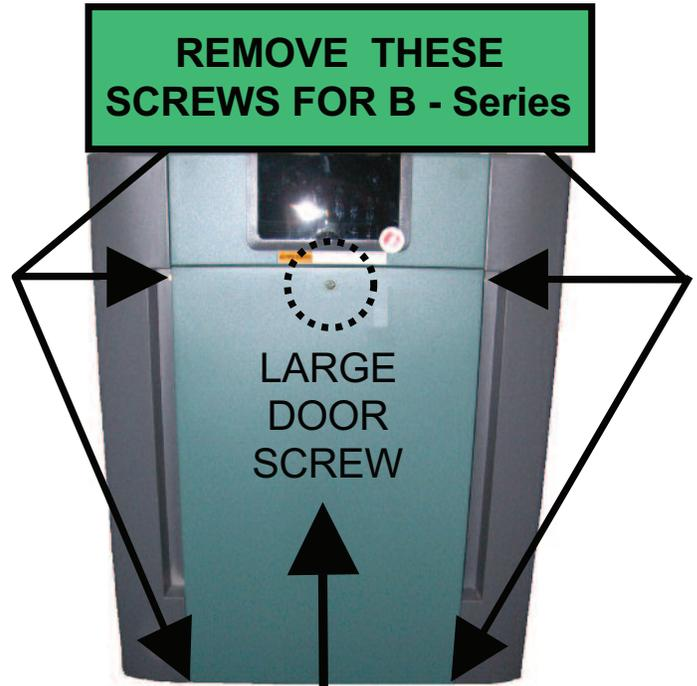
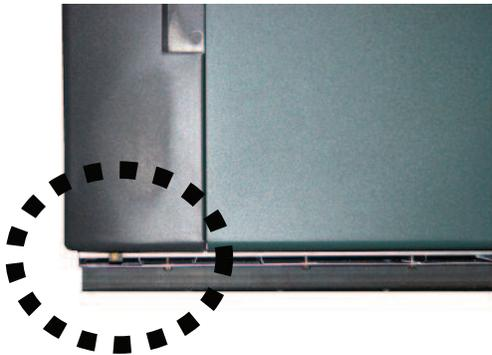

Fig. 2
Fig. 1
3. B-Series: Remove front door by removing the 4 door panel screws shown in **Fig. 1** and **Fig. 2**.
4. A-Series: Remove front door by removing the large door screw in front of unit as shown in **Fig. 1**.